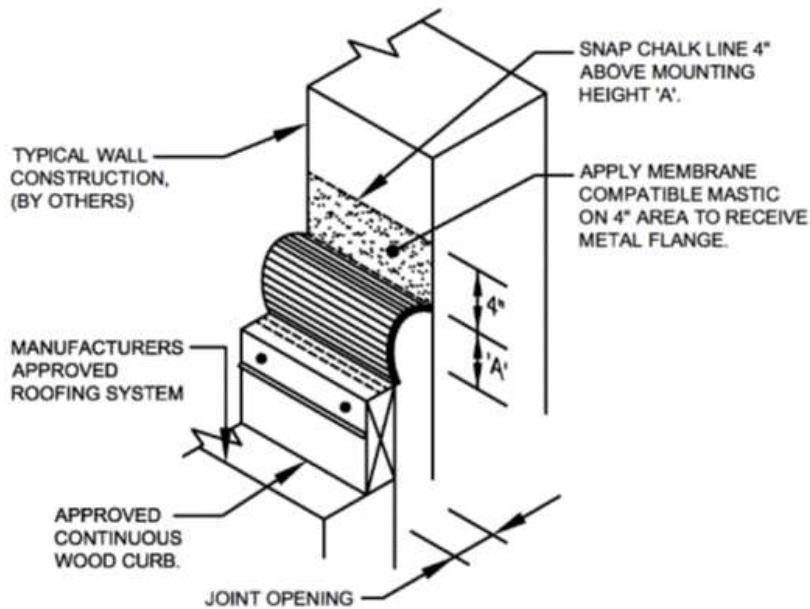

Figure 6
6. Fold over wall flange to gain access to attachment location. Snap chalk line 4" above mounting height 'a'. See mounting height 'a' chart for correct dimension. Apply membrane compatible mastic on 4" wide area to receive metal wall flange. **See Figure 6**